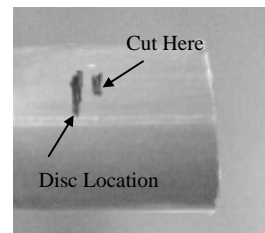

Figure 1
- 1) **Locate the 1st disc by inserting small ruler or wire.** Mark location on jacket surface. **Cut** right in front of disc using hacksaw (Figure 1). *Ensure that cable is straight for at least 10" from the end.*